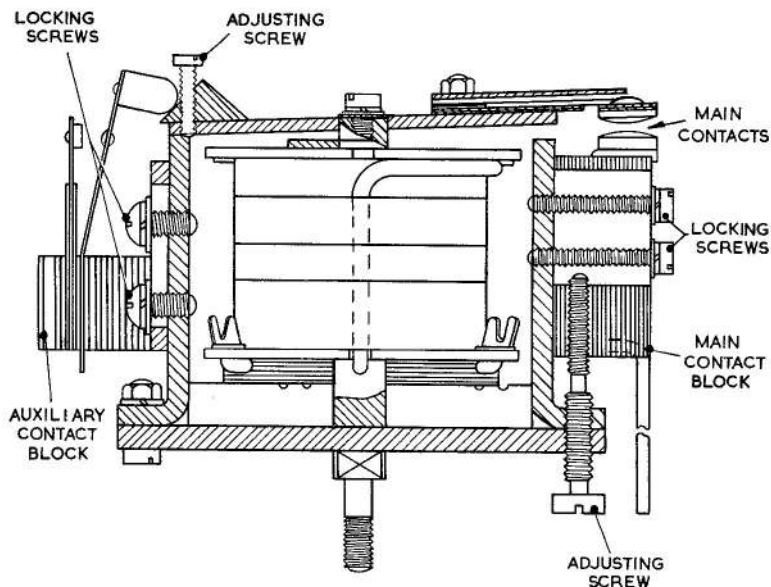

Fig.3. Sectional view of cut-out.
20. Adjust the main contact block (*fig.3*) by means of the adjusting screw, to give an armature gap of 0.005 in. when the main contacts are fully closed by hand. The locking screws should be left just sufficiently slack to permit final adjustments when testing.
28. *Closing test.* Slowly increase the generator speed until the cut-out closes, the differential voltage at cut-in, measured across terminals 1 and 2 should not be greater than 1.2V. This should be adjusted if necessary by means of the screw passing through the auxiliary contact block (fig.3), the screw should then be locked by the